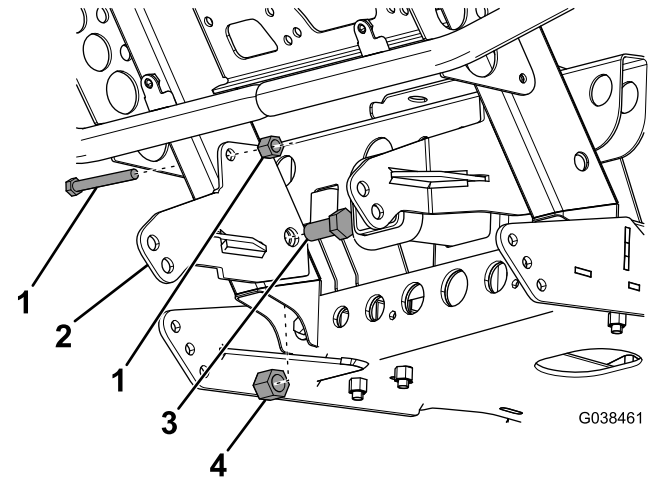

Figure 4
7. Mount the short brackets to the vehicle frame using the 2 existing bolts and nuts, 2 hex-head bolts (5/8 inch), and 2 locknuts (5/8 inch) as shown in Figure 4.